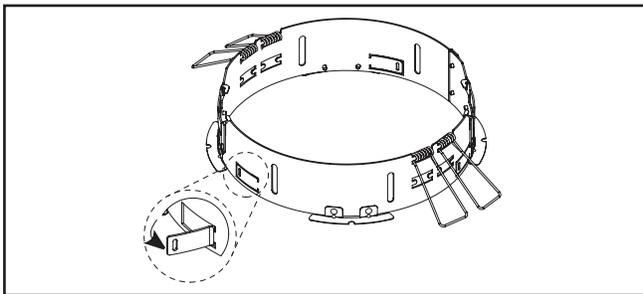

Figure 32.
- To prevent movement in the housing/ceiling opening use a flat head screw driver to pry out 4 centering tabs on Retrofit Ring Assembly (Figure 32.).